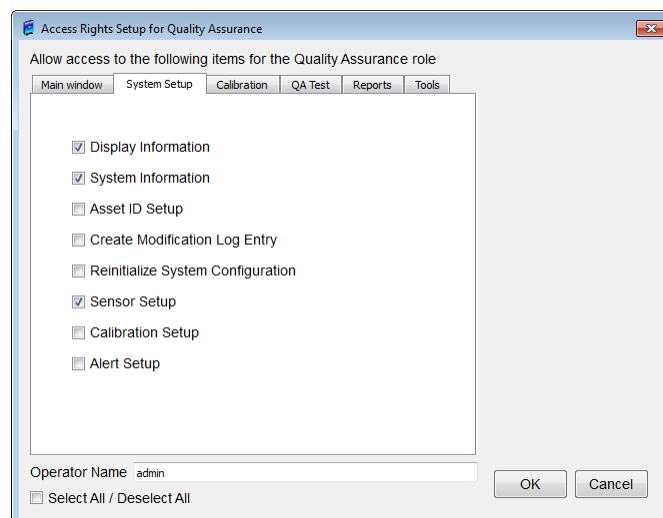

Figure 108: Access Rights Setup for Quality Assurance dialog box (System Setup)
- **System Setup tab (Figure 108)**